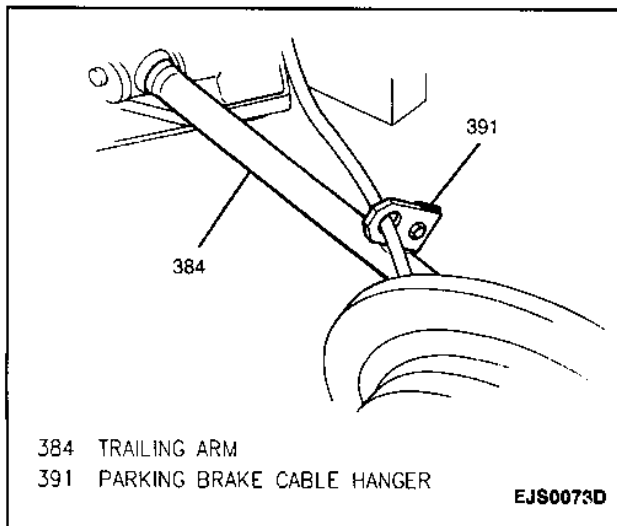

Figure 7—Parking Brake Cable Hanger
3. Parking brake cable hanger from trailing arm by removing nut and bolt (Figure 7).